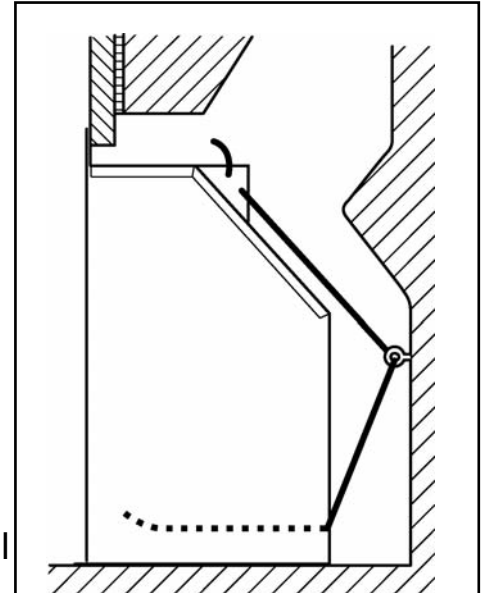

Figure 10. Cable route
6. Thread the cables through the eyebolts. Return the cables through the holes near the bottom of the convector box back panel, and through the "V" shaped brackets near the bottom front sides of the convector box (See figure 10).